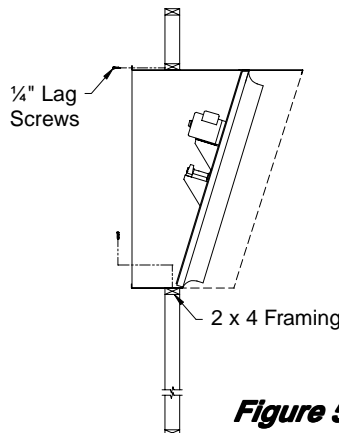

Figure 5
- 8) Insert fan into the framed opening from the inside and fasten with 1/4" diameter Lag screws or #14 Tapping screws (not provided). **See Figure 5.** Before inserting shutter proceed to the Electrical Wiring Section.